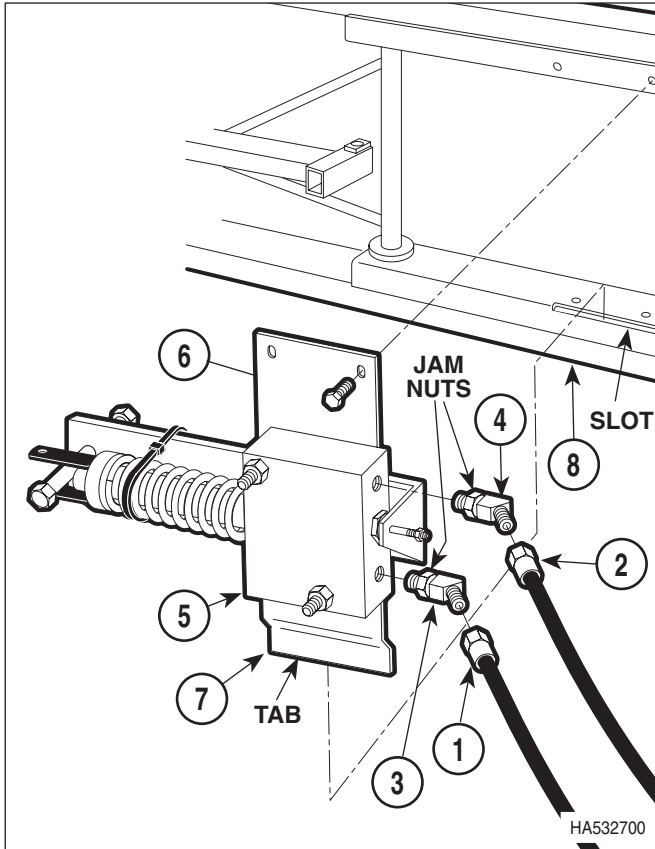
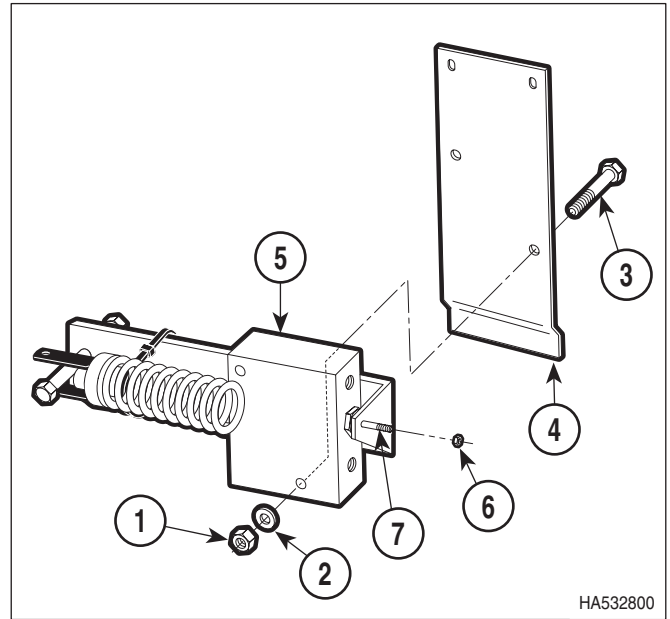

Figure 4-9. Pump Assembly Removal / Installation
Figure 4-10. Pump Assembly Disassembly
- (11) Tag and disconnect hoses (1 and 2, Figure 4-9) from elbows or male connectors (3 and 4).
- (12) Loosen jam nuts; then remove elbows (3 and 4) from pump assembly (5) **or** remove male connectors (3 and 4) from pump assembly (5).
- (13) Remove two screws (6) and pump assembly (5) from chassis (8).
- (14) Remove two nuts (1, Figure 4-10), washers (2), screws (3), and pump plate (4) from pump assembly (5).
- (15) Remove nut (6) from manual relief valve stem (7).
- (1) Install nut (6, Figure 4-10) on manual relief valve stem (7). Tighten only one or two turns.
- (2) Install pump plate (4) on pump assembly (5) and secure with two screws (3), washers (2), and nuts (1).
- (3) Install tab of pump plate (7, Figure 4-9) in slot in chassis (8) and secure with two screws (6).